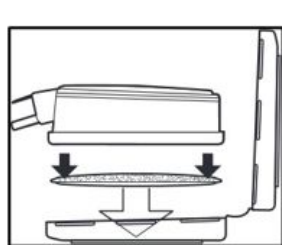

Fig.5
1. Orient one filter in the larger half of the filter retainer so the shape of the filter aligns with the shape of the filter retainer. Ensure the printed side of the filter is facing down (Fig. 5). Note: The larger half of the filter retainer does NOT have the cutout end, while the smaller half has a cutout end so it fits around the cartridge connection.